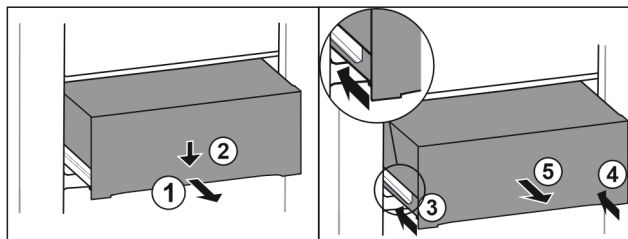

Fig. 108
- Pull out the drawer halfway. Fig. 108 (1)
- Press down the drawer on the front. Fig. 108 (2)
- Push in the left rail approximately 2 cm (13/16 in). Fig. 108 (3)
- Push in the right rail approximately 2 cm (13/16 in). Fig. 108 (4)
- Remove drawer to the front. Fig. 108 (5)